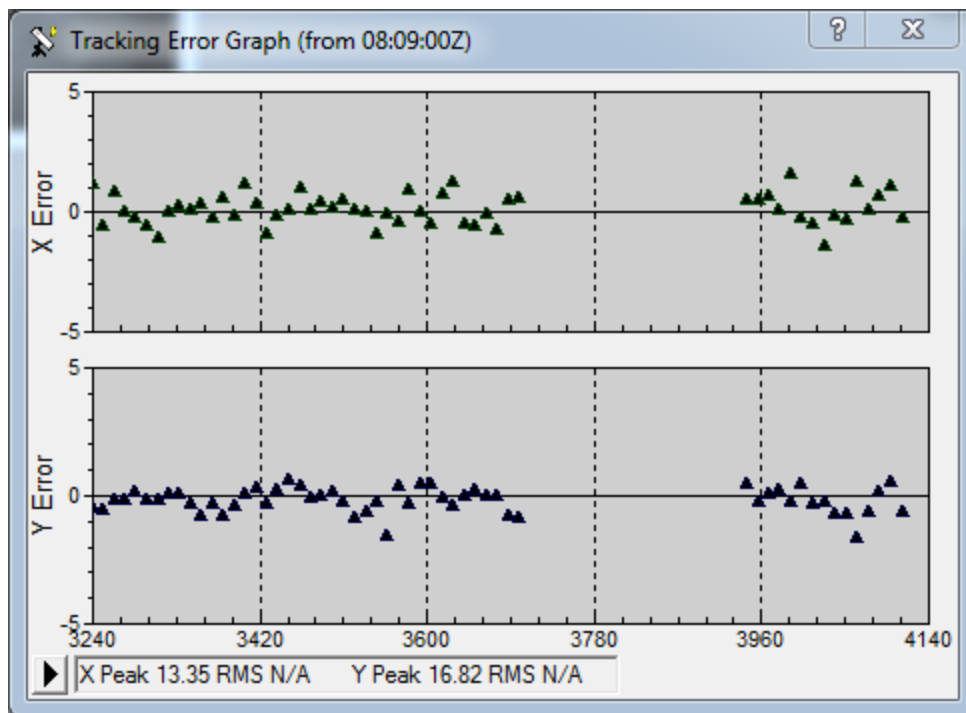

Figure 11: A tracking graph. The gap between the two sequences was for an offset between frames
- Click on the “graph” button to display a graph of the x-y guiding errors (Figure 11). The Y and X scale of the plot can be adjusted as appropriate.